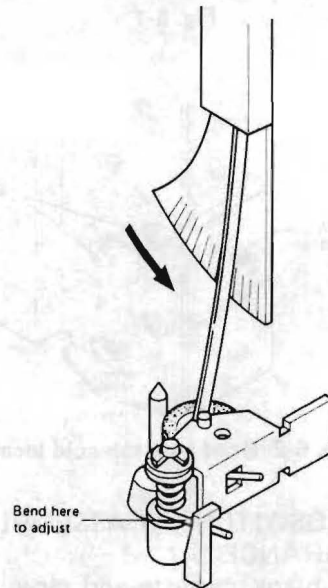

Fig. 6-6
- 2) With the deck in the reproduce mode, attach the scale near the shaft of the pinch roller, being careful not to touch the pinch roller. See Fig. 6-6.
- 5) If the reading is outside this range, replace the pinch roller pressure spring or adjust the pressure by bending the spring as shown in Fig. 6-6.